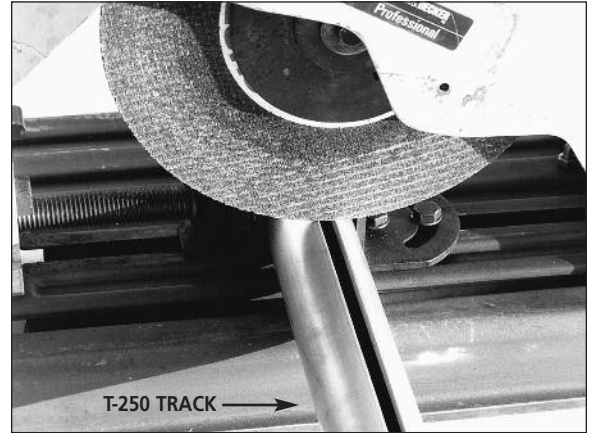

Figure 1
- Measure or calculate length of track section required. If under 10 ft., cut section to required length, making sure cut is square to track. **Figure 1** shows chopsaw cutting method.